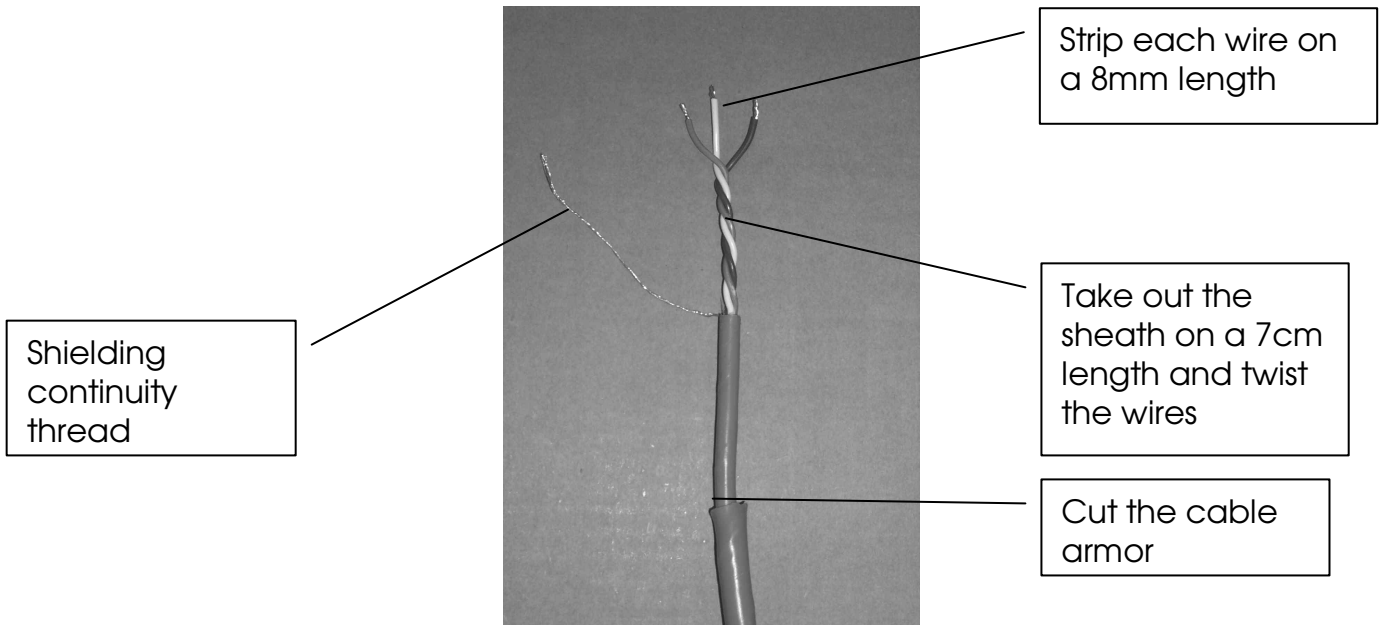

Figure 5: Cable preparation
1. Cable preparation: see Figure 5.